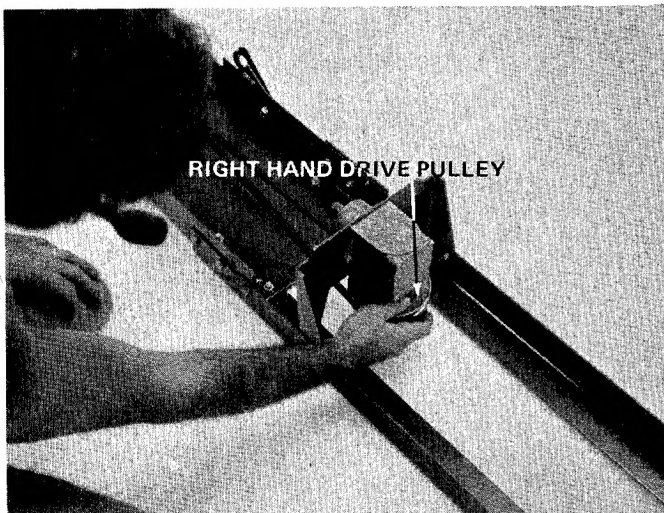

FIGURE 15
12. Twist V-belt 90° to the left and feed on to right hand drive pulley. See figure 15.